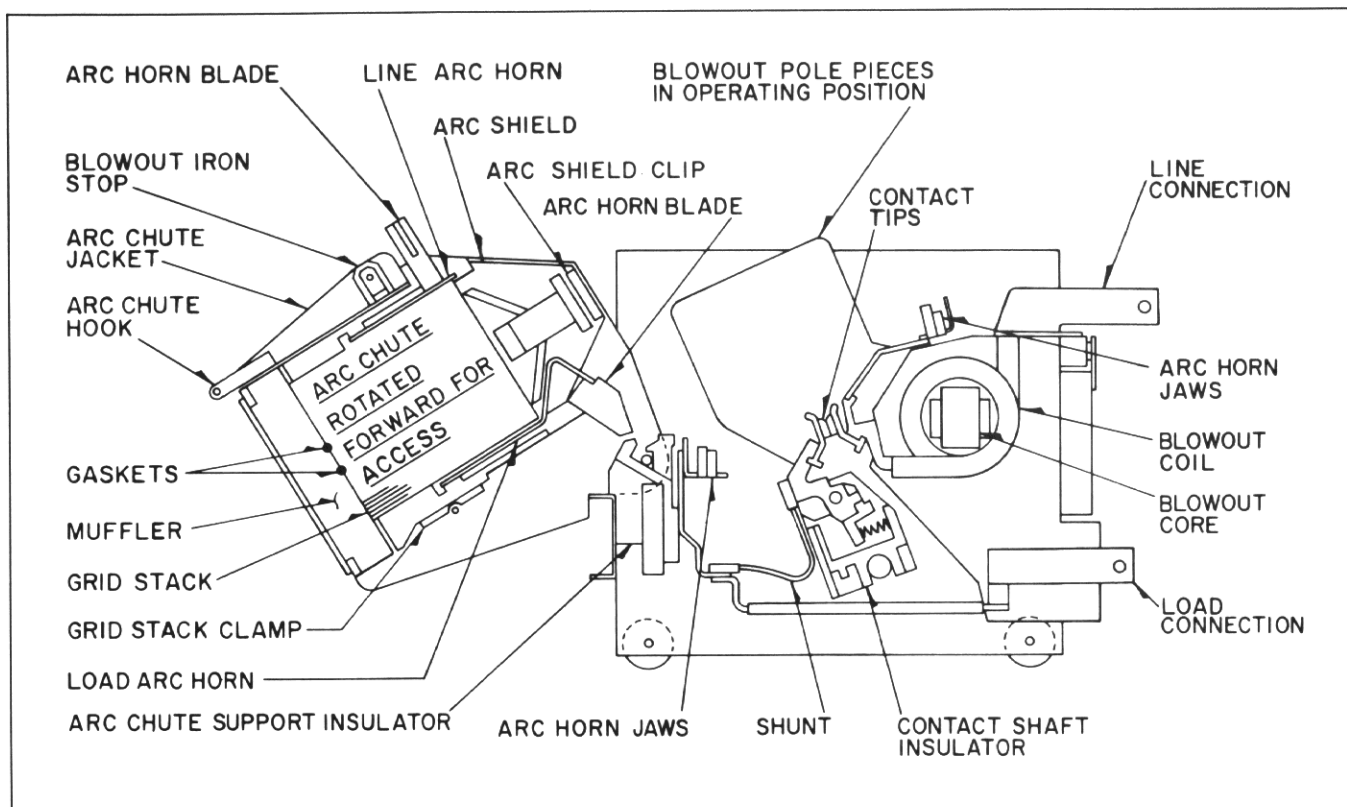

Fig. 7 Sectional View Through Contacts (Dwg. 3513C87)
For visual inspection of the contacts and shunts the arc chutes may be rotated forward out of the normal operating position as shown in Figure 7.
Arc chutes can be removed completely by first rotating them forward toward the front as shown in Figure 7, and then lifting upward until the horizontal pivot bolt comes free. It is not necessary to loosen hardware to remove the arc chutes.
- 1) Refer to Figure 7 and loosen the grid stack clamping screw.
13) Return arc chutes to contactor by dropping pivot bolt into the slot of molded arc chute support as shown in Figure 7 and then rotate the arc chute into operating position as shown in Figure 2. When in the operating position arc horn blades should make at least .25" engagement with their respective arc horn jaws. In the event an attempt is made to install 5 KV arc chutes on this 7.2 KV contactor or if blowout pole pieces are not in their proper operating position, projections on the arc chute flanges will strike the pole piece assemblies preventing the arc chutes from being rotated into operating position. When the contactor is mounted in an Ampgard starter the arc chute will then prevent the enclosure door and isolating switch from being closed if 5 KV arc chutes are used or if the blowout pole pieces are not in their proper operating position.